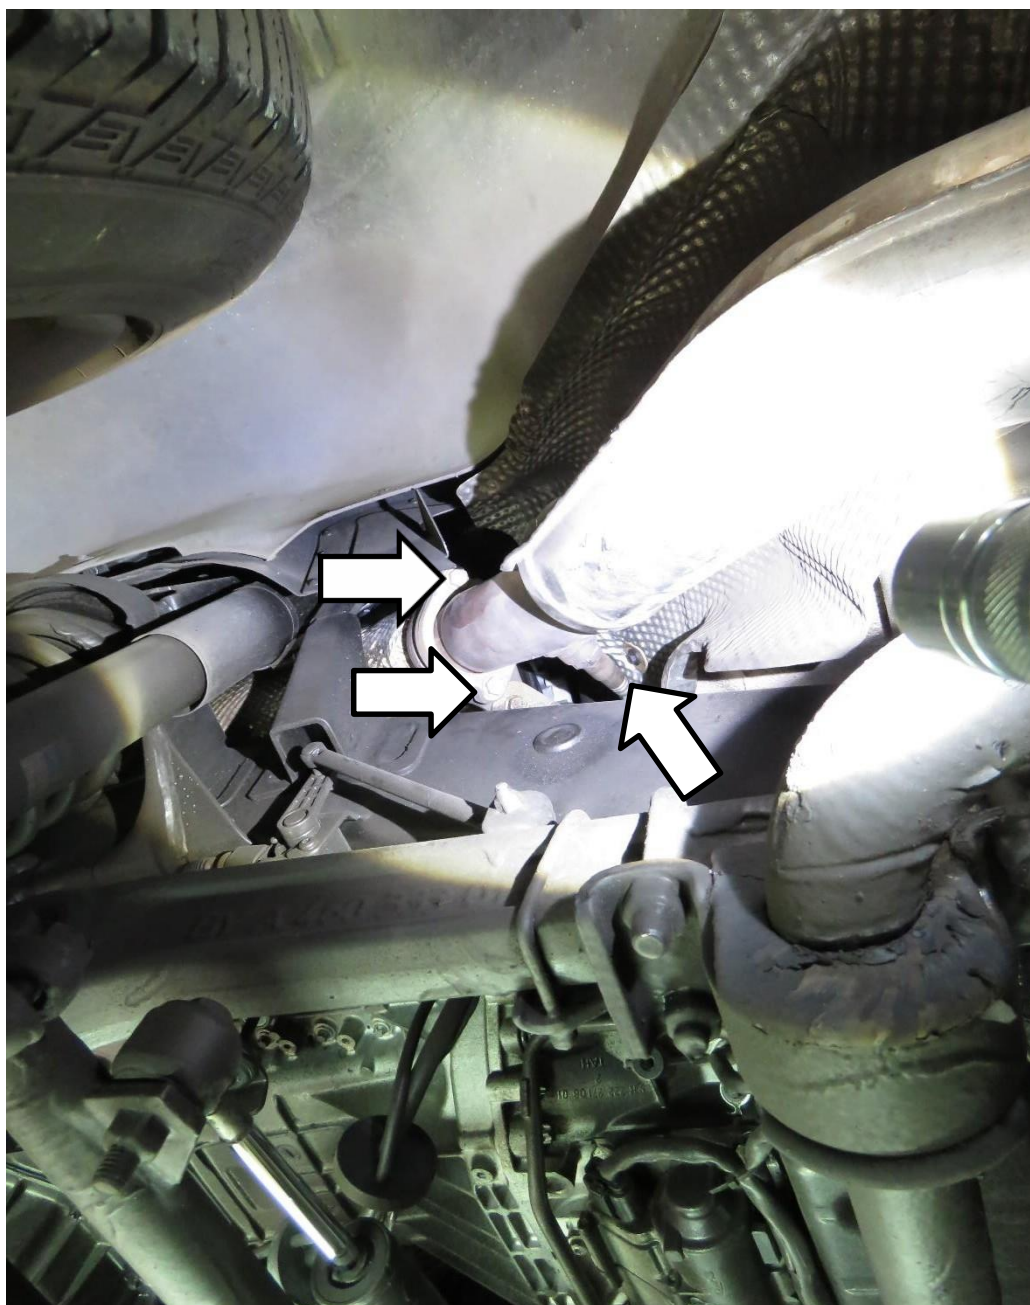
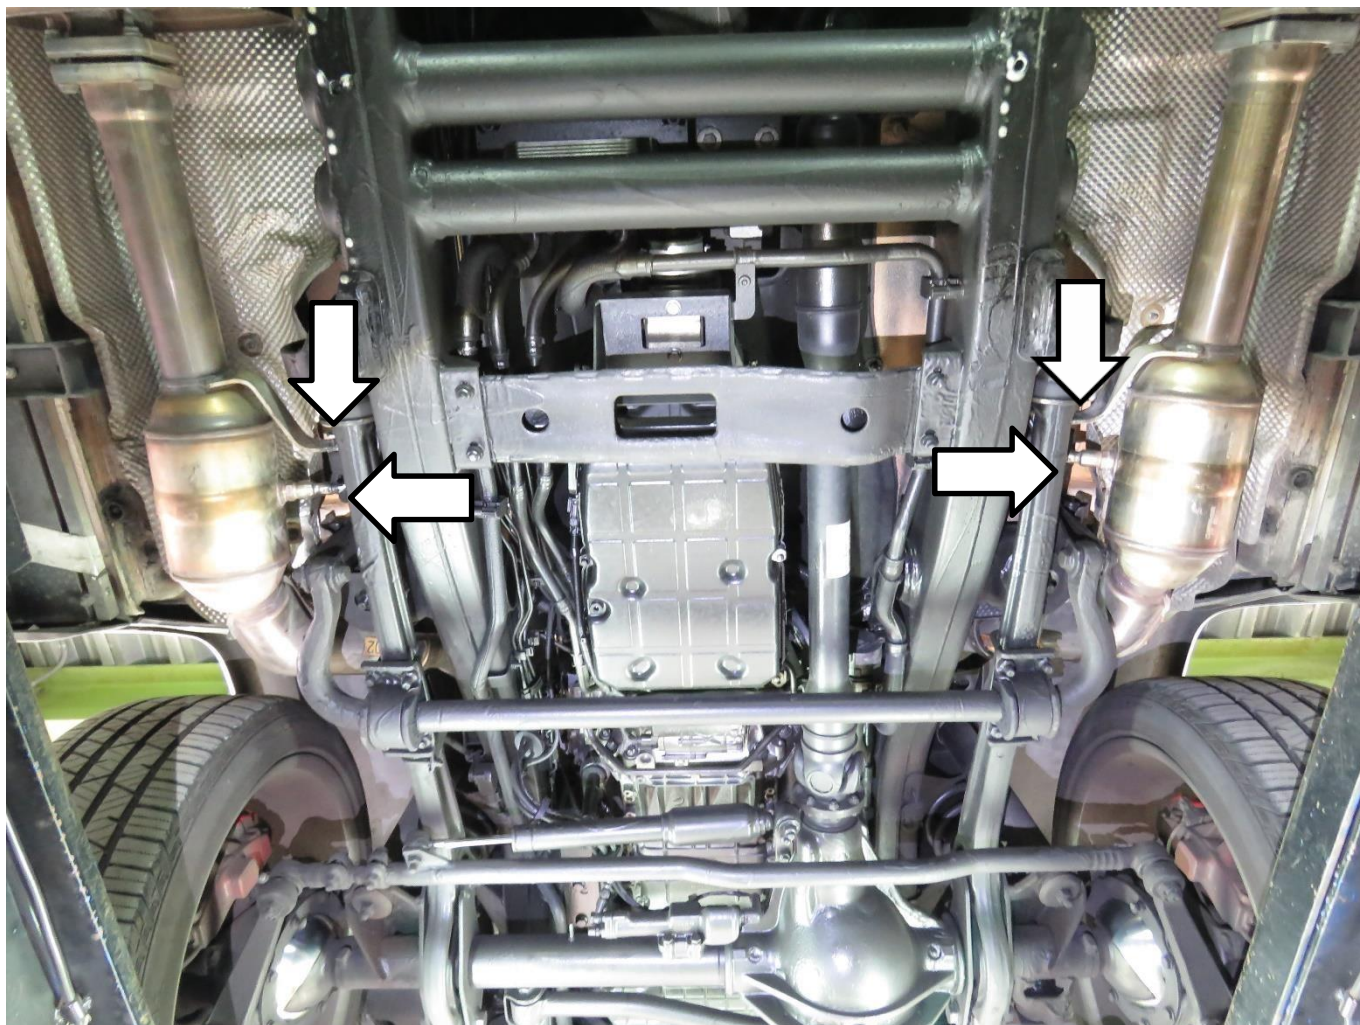

Fig.3
Fig.4
2. Remove the left and right sides oxygen sensors before unscrew the cat pipe (Fig.3, Fig.4).